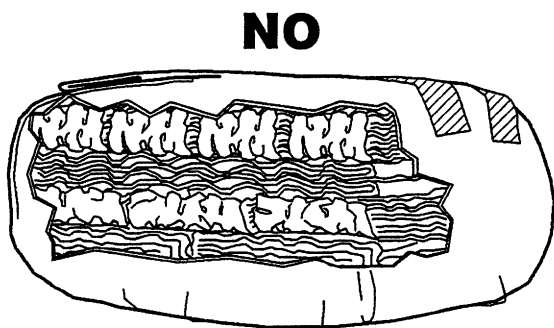

Figure 15.
- a. But practically speaking, textiles have changed over the years. The linen pack density formula is not appropriate for use with water repellent textiles, only cotton/linen textiles. Always keep in mind that density relates to how the textile contents of a pack are arranged and how tightly they are wrapped. A simple gown or towel pack could be pulled together so tightly that sterilization and drying could be prohibited - so consider loosening them up (Figures 15 and 16). Ask the manufacturers of newer textiles for a pack density formula appropriate for their products.